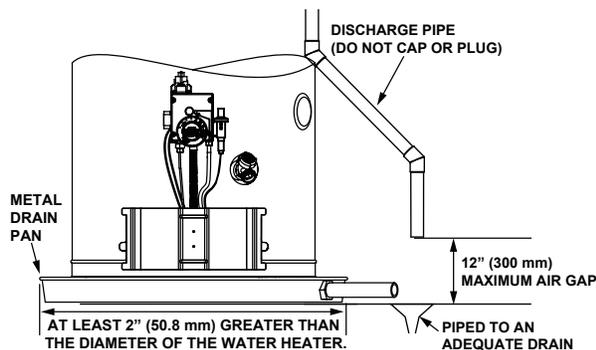

FIGURE 2.
- Figure 2 may be used as a reference guide to locate the specific clearance locations. A minimum of 610mm (24") of front clearance should be provided for inspection and service.